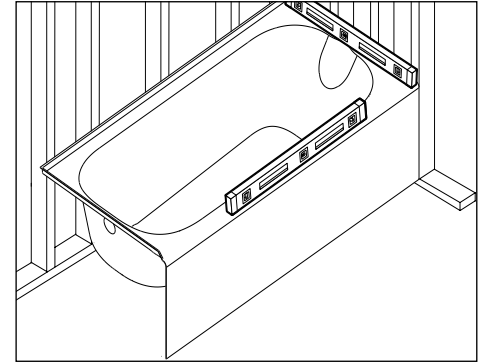

FIGURE 1. Assure bathtub is level.
- Trial fit bathtub in prepared alcove. With bathtub sitting flat on sub-floor, check with level on top of bathtub. Bathtub should be level from front to back and side to side (Fig. 1). If bathtub is not level use standard wood shims or leveling compound.